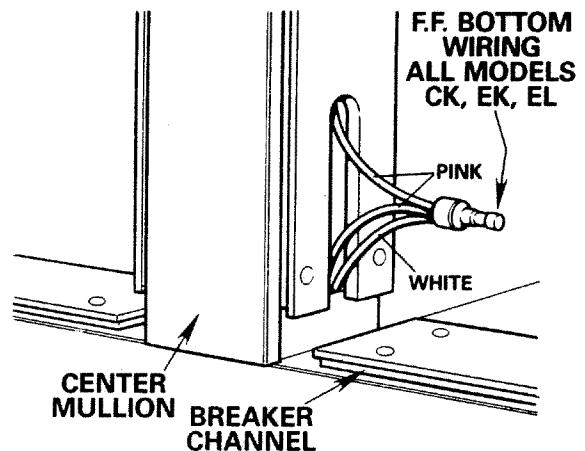

Figure 12 - Fresh Food Bottom Slot CK/EL & EK
21. Remove the wire connector from the bottom wire bundle and connect the pink end of the heater wire to these wires with a wire connector provided. See Figure 12. Seal the connector.